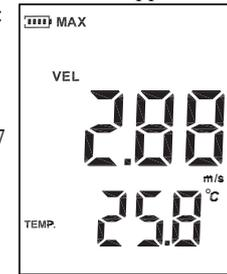

Figure 7
- Place the probe in the duct area, take measurement of current wind flow value right away. As shown in figure 7:
- When measuring maximum value of wind velocity, a " MAX " will be shown on the upper left LCD screen, as shown in figure 7: